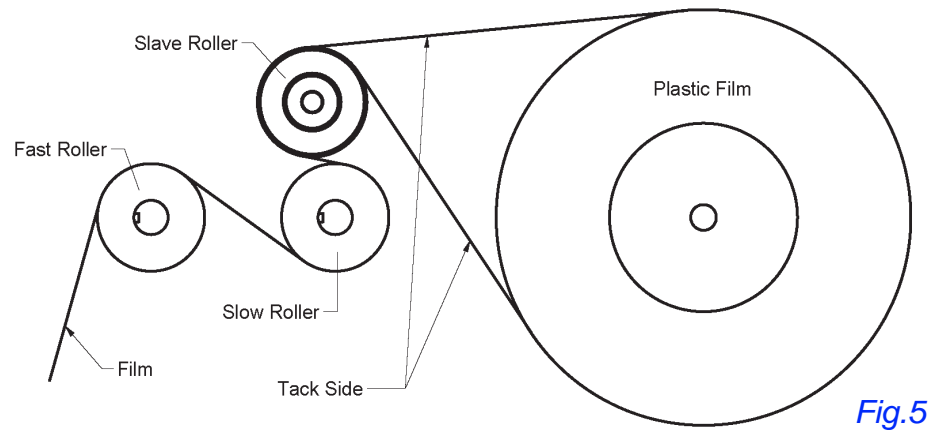
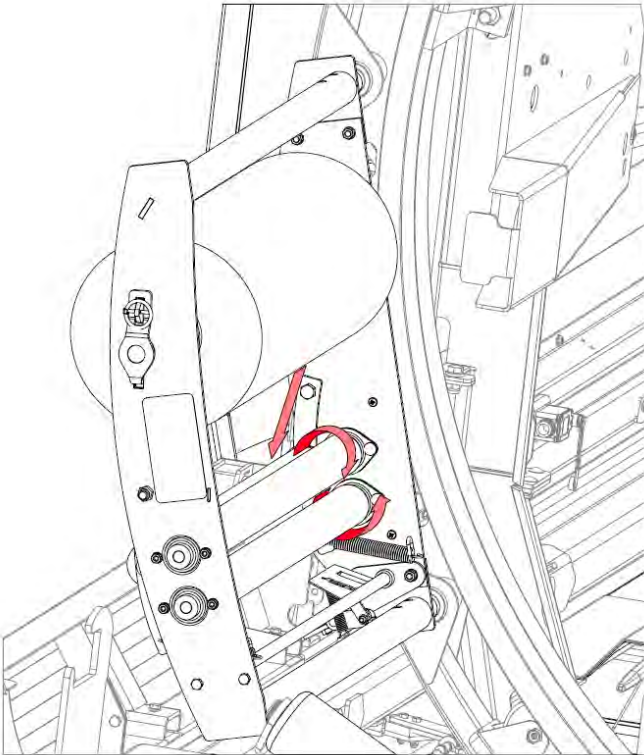

Fig. 5
Fig. 6
12. Route loose end of plastic wrap roll through 3 bottom rollers as shown in Fig. 6 and decal located on rear side of plastic wrap carrier. See Fig. 5.